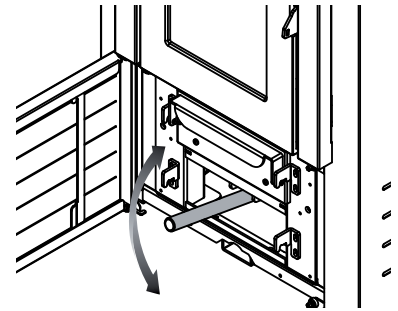

Fig.12.7
- Insert this into the special notch and move it up and down to remove the soot deposits from the tubes (Fig. 12.7).